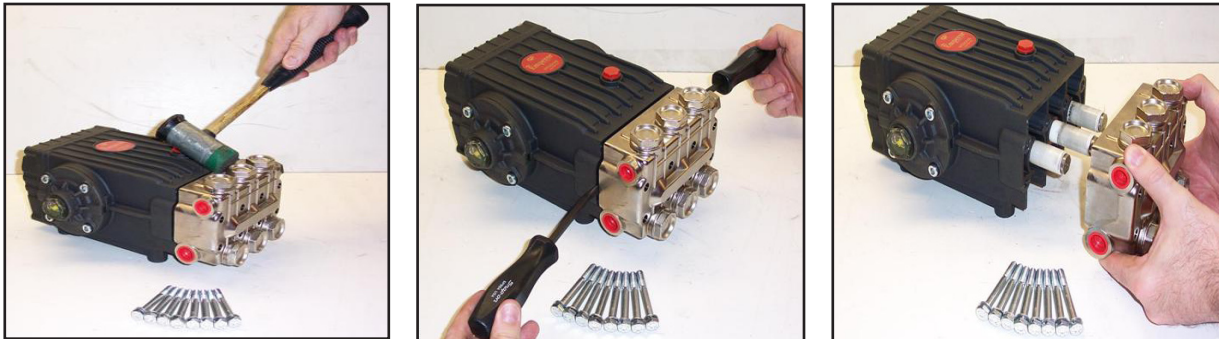

Figure 5-6. Separate Manifold from Crankcase
11. Separate manifold from crankcase (see Figure 5-6).